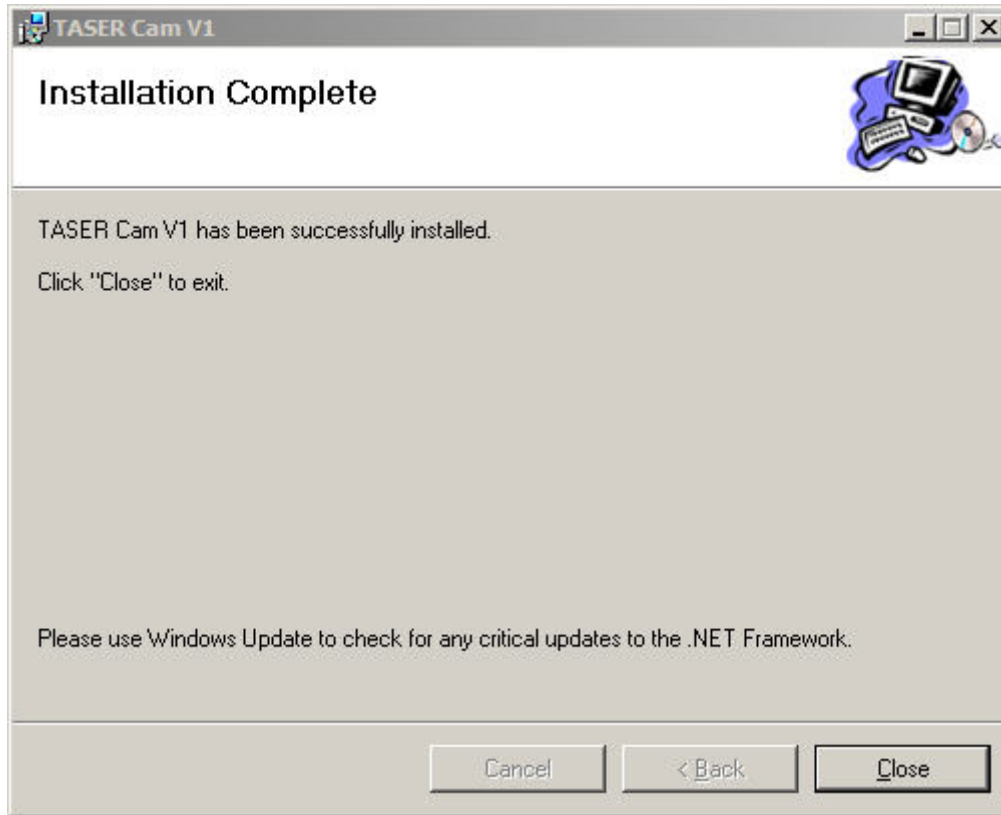

Figure 5
9. The installation is complete. Click **Close** to exit (Figure 5).